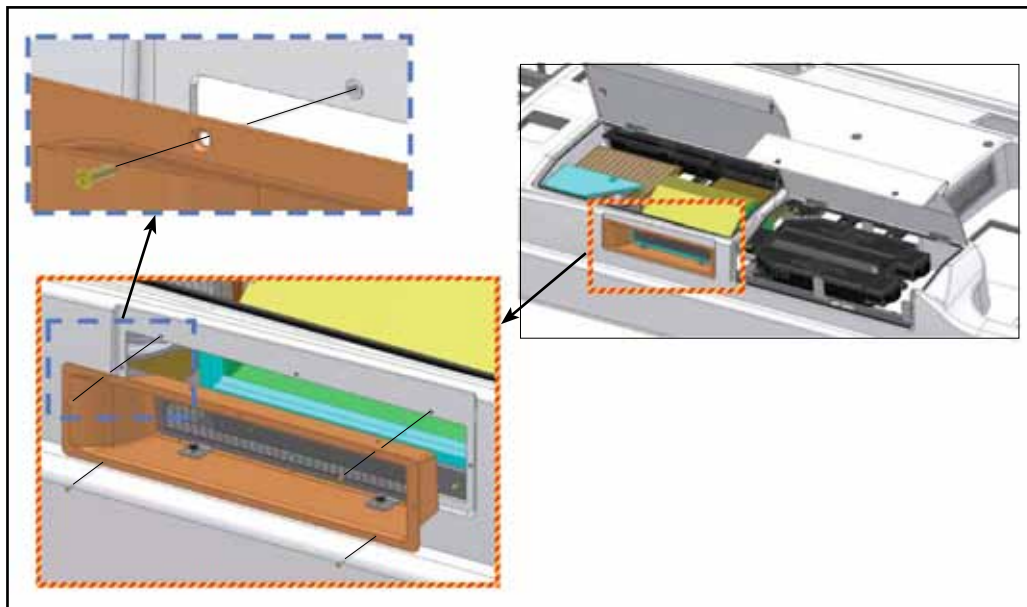

Figure 3 - Filter (Streetside of the Vehicle)
1.3 Remove the filter. See Figure 3.